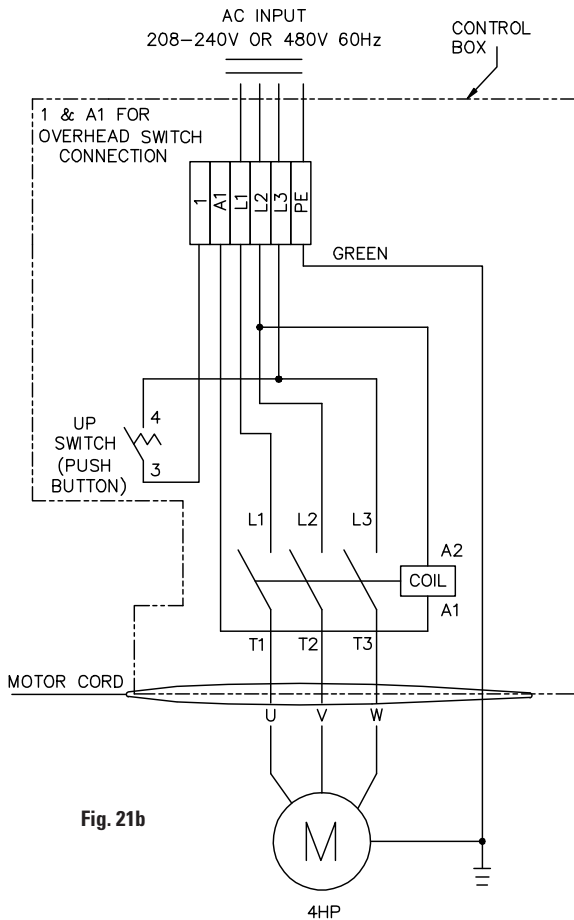

Fig. 21b
11. Electrical: Have a certified electrician run appropriate power supply to motor, Fig. 20, Fig. 21, Fig. 21b. Size wire for 20 amp circuit. See Motor Operating Data Table.
IMPORTANT: Use separate circuit for each power unit. Protect each circuit with time delay fuse or circuit breaker. For single phase 208-230V, use 20 amp fuse. Three phase 208-240V, use 15 amp fuse. For three phase 400V and above, use 10 amp fuse. For wiring see Fig. 20, Fig. 21, Fig. 21b. All wiring must comply with NEC and all local electrical codes.